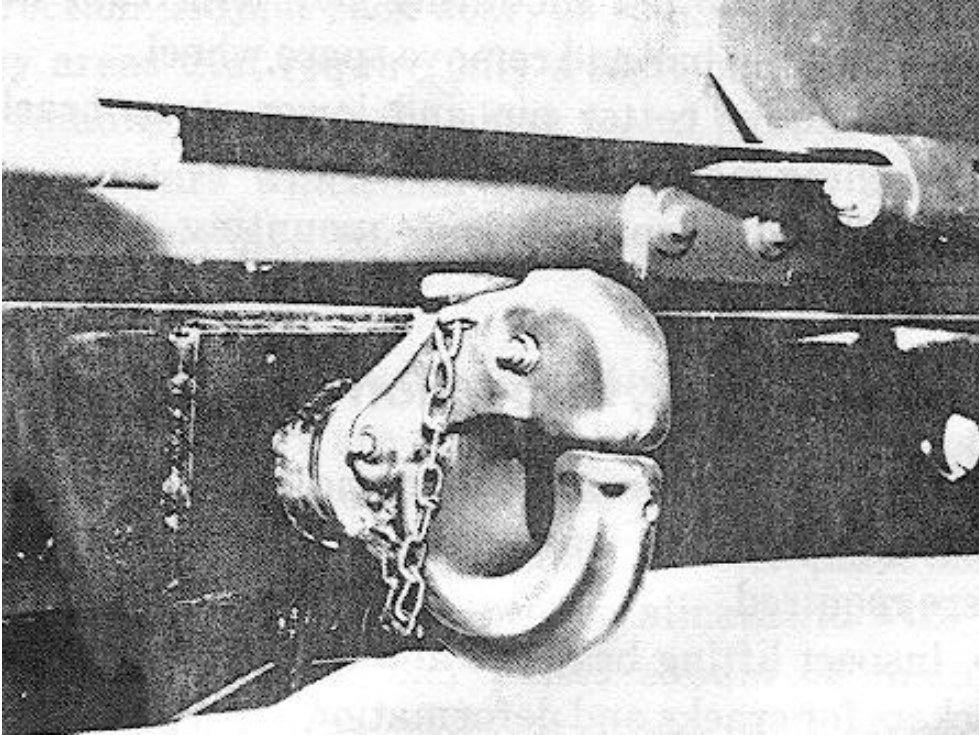

Figure 2-91. Rear pintle hook.
a. Pintle. (Fig 2-91)
- (1) Remove cotter pin, slotted nut and plain washer from the front end of pintle; remove pintle hook.,
- (2) Inspect the lubrication fitting in pintle hook. If the fitting is damaged, it must be replaced.